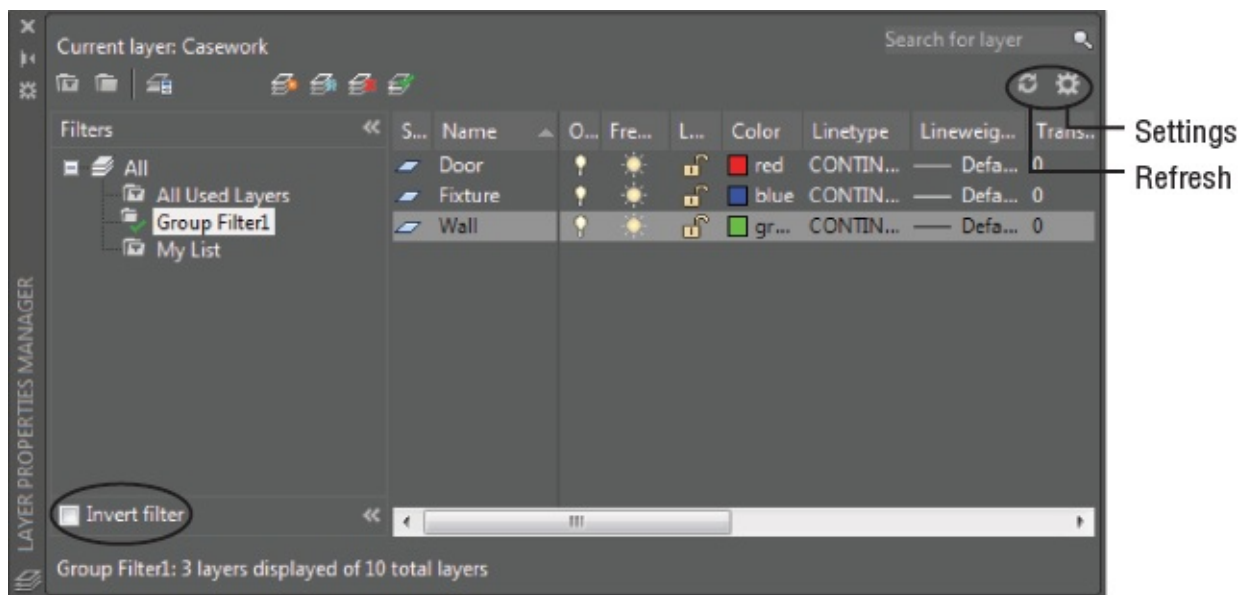
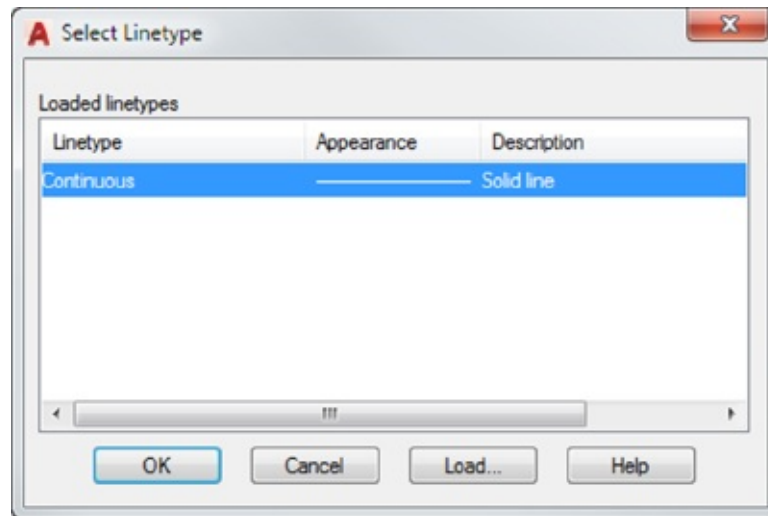

FIGURE 5.11 Invert Filter, Refresh tool, and Settings button in the Layer
FIGURE 5.15 The Select Linetype dialog box
Before you move on, you'll want to know about a few other options that appear in the Layer Properties Manager (see Figure 5.11).
4. In the Pole layer listing, under the Linetype column, click the word *Continuous* to open the Select Linetype dialog box (see Figure 5.15). To find the Linetype column, you may need to scroll the list to the right by using the scroll bar at the bottom of the list (see Figure 5.11).